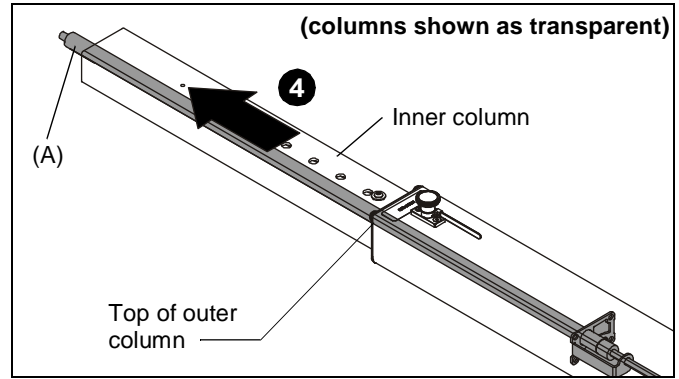

Figure 6
5. With gas spring assembly (A) fastened to the inner column, slide inner column of cart up through outer column, and out the top of the outer column. (See Figure 6)